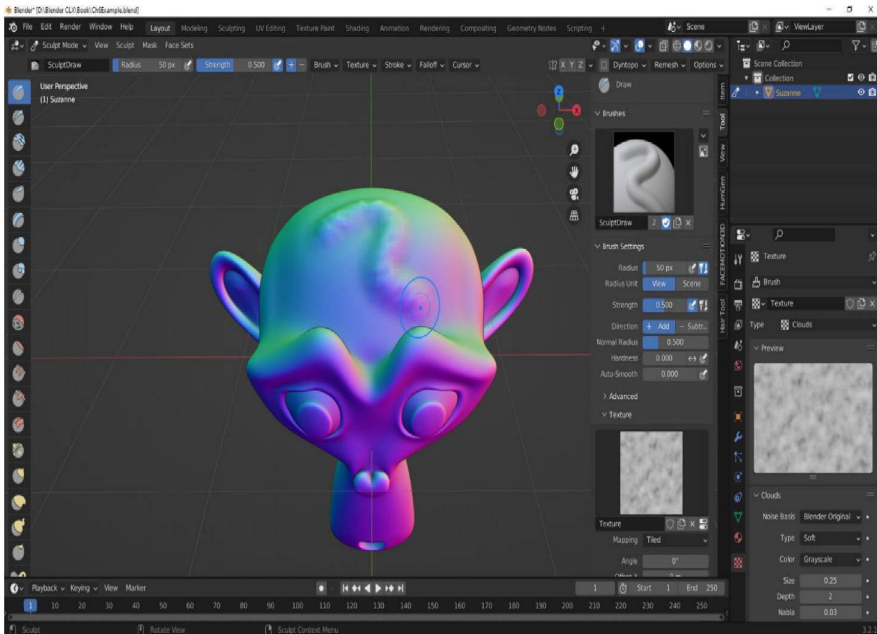

Figure 6.4: Cloud Texture added to Draw brush creating a textured stroke
In Sculpt Mode with a brush selected, in either the **Sidebar** menu (toggled by pressing the **N** key) under the **Tool tab**, or from the **Properties** panel under the **Active Tool** tab as shown in *Figure 6.4*, each brush presents a variety of settings which will affect its operation:
- **Texture**, a greyscale image that can be added to adjust the current tool's intensity in a pattern as shown in *Figure 6.4*